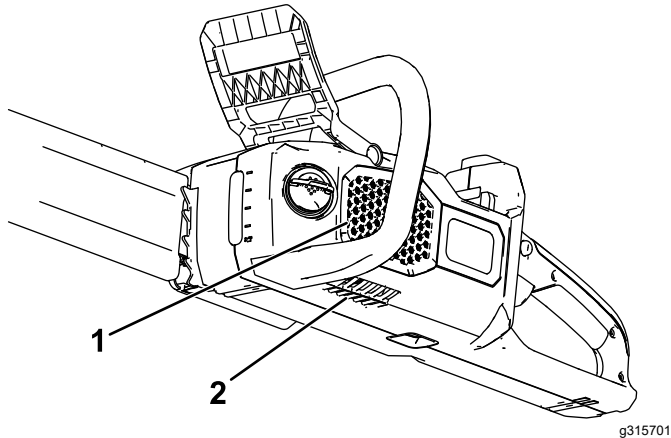

Figure 8
1. Ensure that the vents on the chain saw are free from dust and debris (Figure 8).